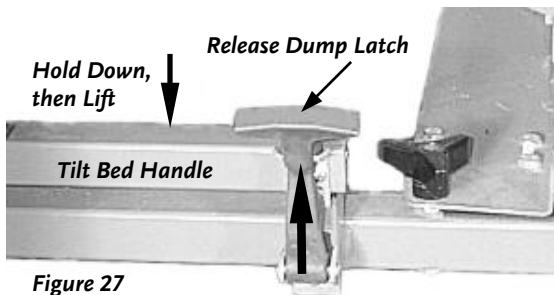

Figure 27
2. Remove the Rear Panel of the Collector Box by releasing the six (6) Fasteners located at the sides, top, and bottom of the Panel. Lift the Rear Panel off the mounting Pins on the Collector Box Cover.
3. While holding down on the Tilt Bed Handle, release the Dump Latch (**Figure 27**) and raise the Tilt Bed using the Tilt Bed Handle (**Figure 27**).